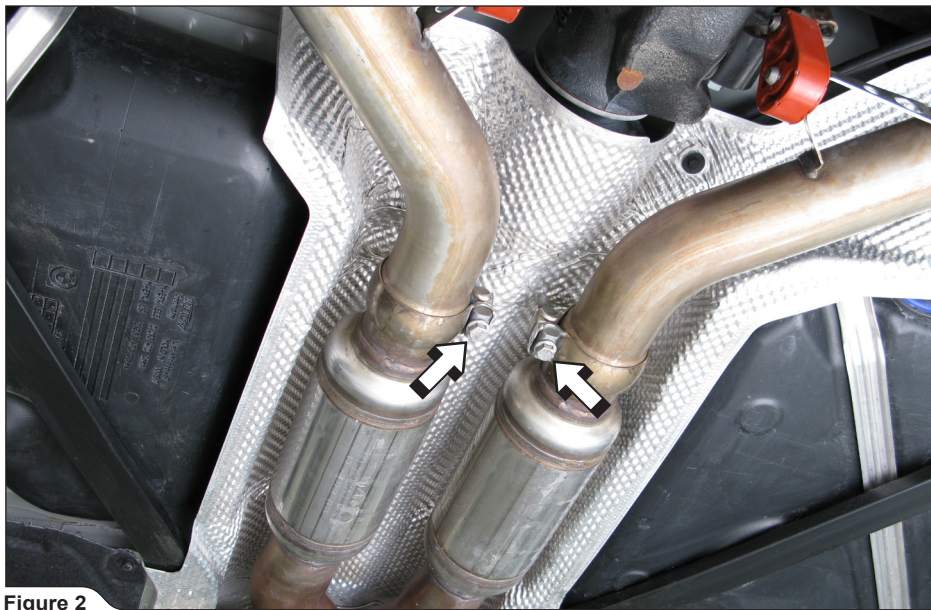

Figure 2
2. **For Slip-On and Evolution:** unscrew the marked clamps (**Figure 2**).